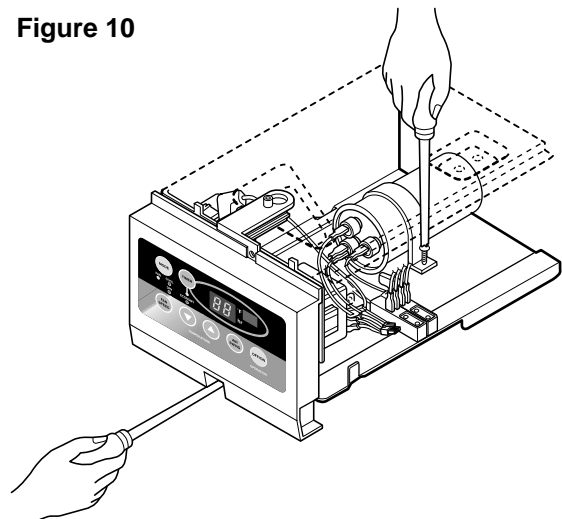

Figure 11
5. Remove the screw and the clamp which fastens the capacitor. (See Fig. 11)
7. Re-install the components by referring to the removal procedure, above. (See Fig. 11)